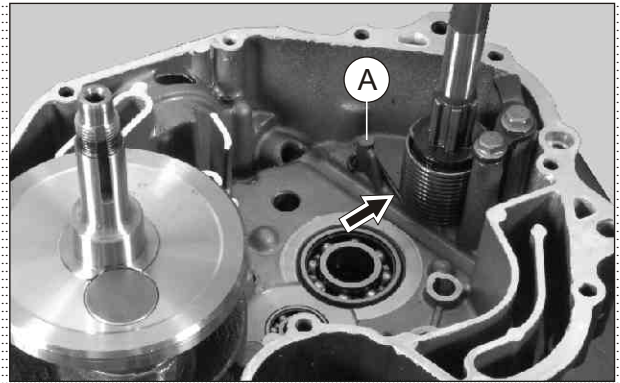

Fig. 3.173
- Assemble shaft kick starter, guide kick starter spring, spring kick shaft return and shim in the reverse order of dismantling. (Fig. 3.173)